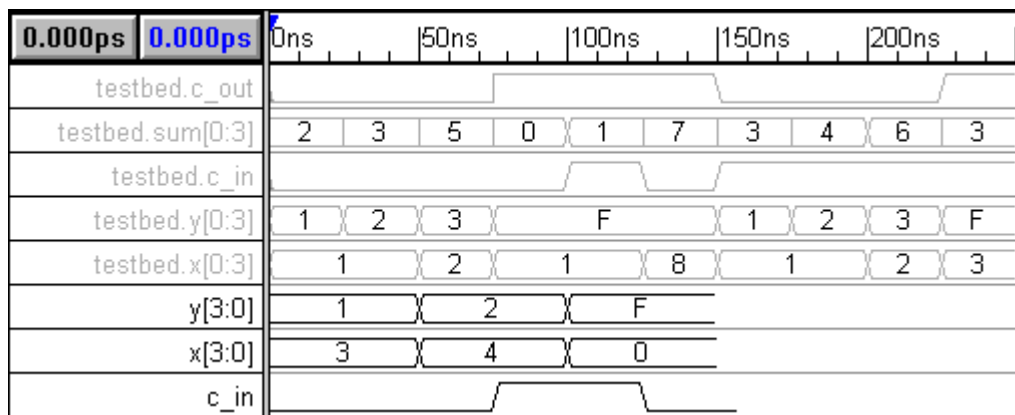

Figure 2: Stimulus vectors for the 4-bit adder circuit
Your drawing should be a mess, or at least look nothing like Figure 2 located in Section 2.6.
5. Continue to enter values into each segment so that it matches Figure 2 and press the **OK** button to accept the last value.
At this point, the **c_in**, **x[3:0]**, and **y[3:0]** signals should look like Figure 2. Exact placement of edges is not required for this tutorial.